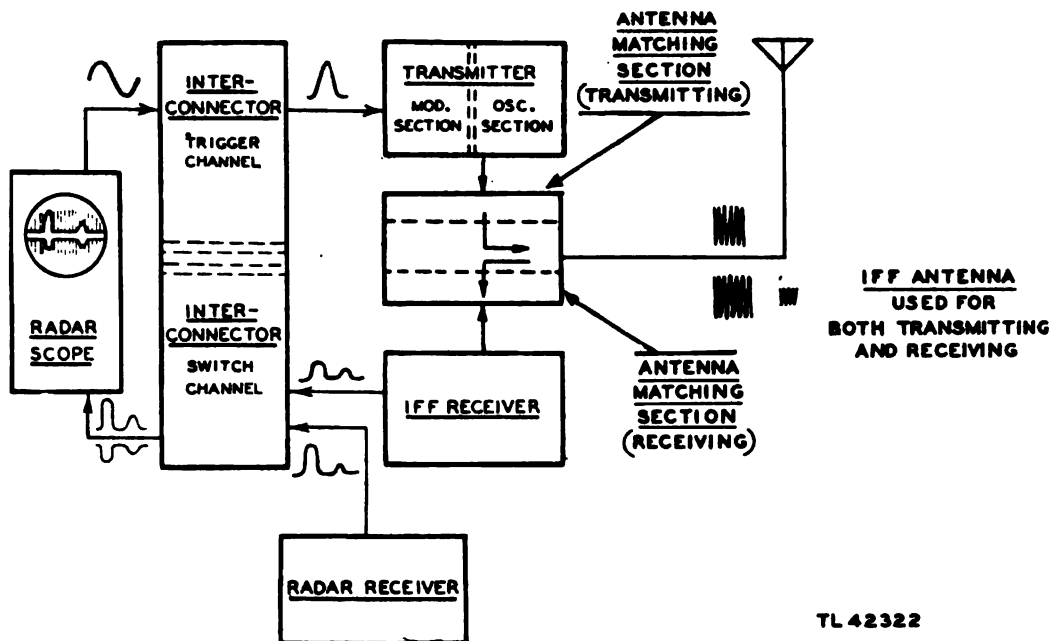

Figure 2. Radio Equipment RC-148-(\*), components.
*a. GENERAL.* The RC-148-(\*) is a typical example of the Mark III IFF interrogator-responder equipment. In the next few paragraphs a general description of the components will be given and the part each one plays in the identification system. (See fig. 2). On the RC-148-C the transmitter, the receiver and the matching section are housed in one chassis, but are treated as though they were separate components. (See fig. 2.)